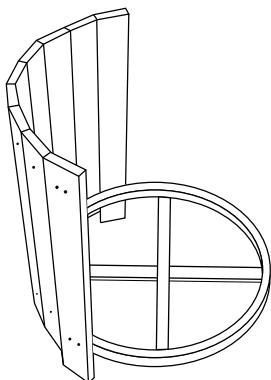

Figure 2
- Fasten five of the 32" resinwood slats then fasten another 33" resinwood slat. (See Figure 2)